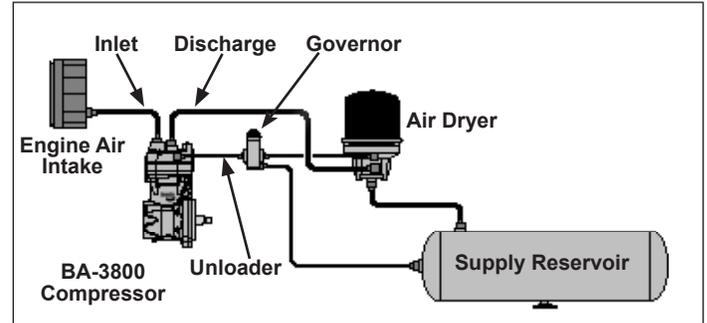

Figure 8 – Compressor Charging System Example
The BA-3800 compressor is only permitted to be naturally aspirated. The use of engine turbocharger as an air source is not allowed. See Figure 8 for an example of a naturally aspirated air induction system.
2. Make certain the unloader system lines are connected as illustrated in *Figure 8*.